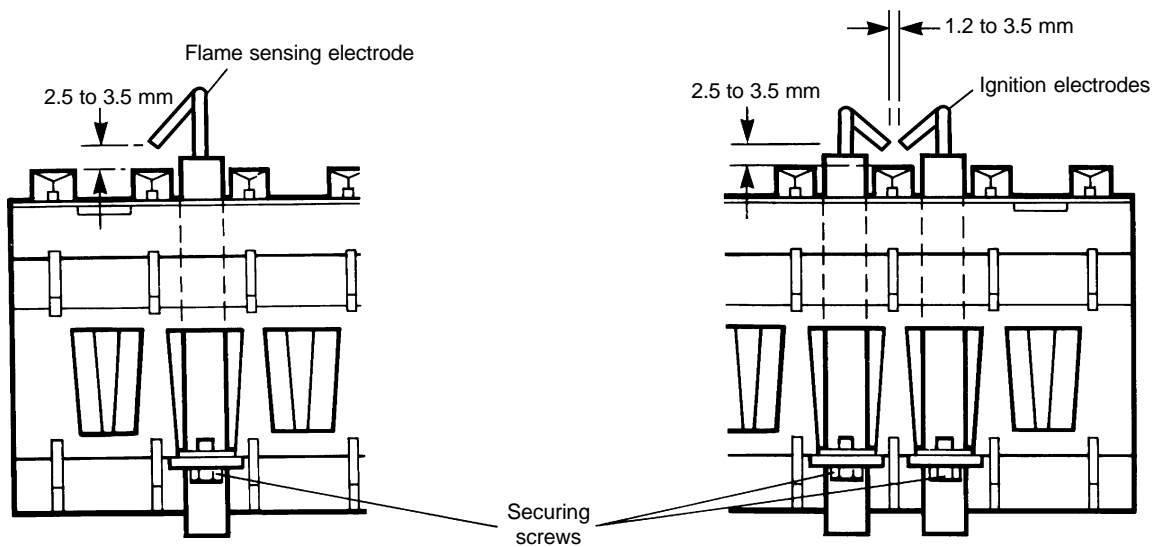

Fig. 20
8.6 ELECTRODES (Alpha 240E and 280E only) - Fig. 20
Fit the new electrode, ensuring it is positioned correctly (see Fig. 20).
Fit the new electrodes, ensuring they are positioned correctly and the spark gap is correct (see Fig. 20).